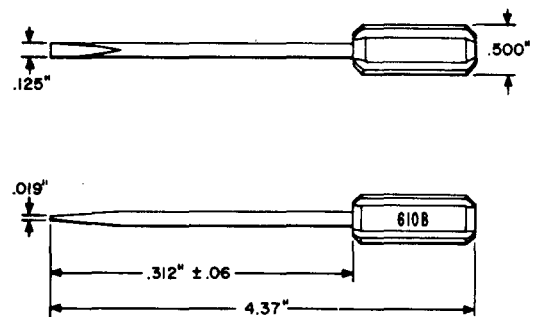

Fig. 1 — 610B Adjuster Tool
2.01 610B: The 610B tool (Fig. 1) is an adjuster used in adjusting gain potentiometers in voice frequency jack panels of L-type Multiplex Systems. The 610B tool replaces the 610A tool.